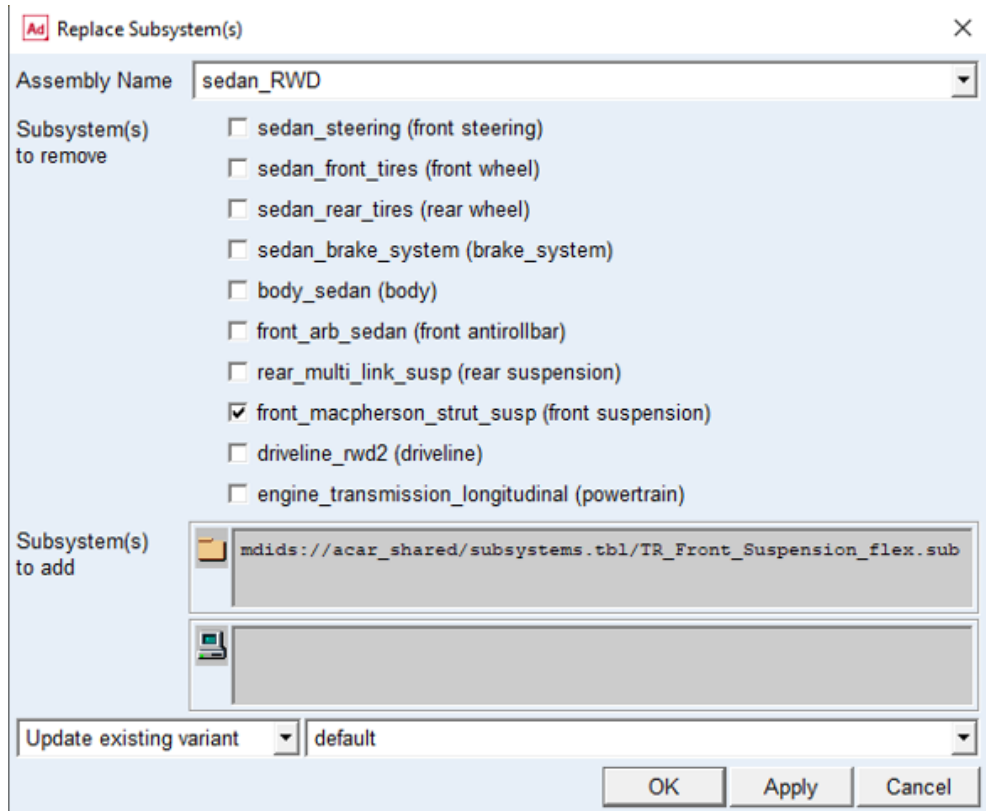

Figure 8 Replacing the front suspension subsystem
2. Select **File, Manage, Assemblies, Replace Subsystem**, and fill out the dialog as shown in Figure 8 below.